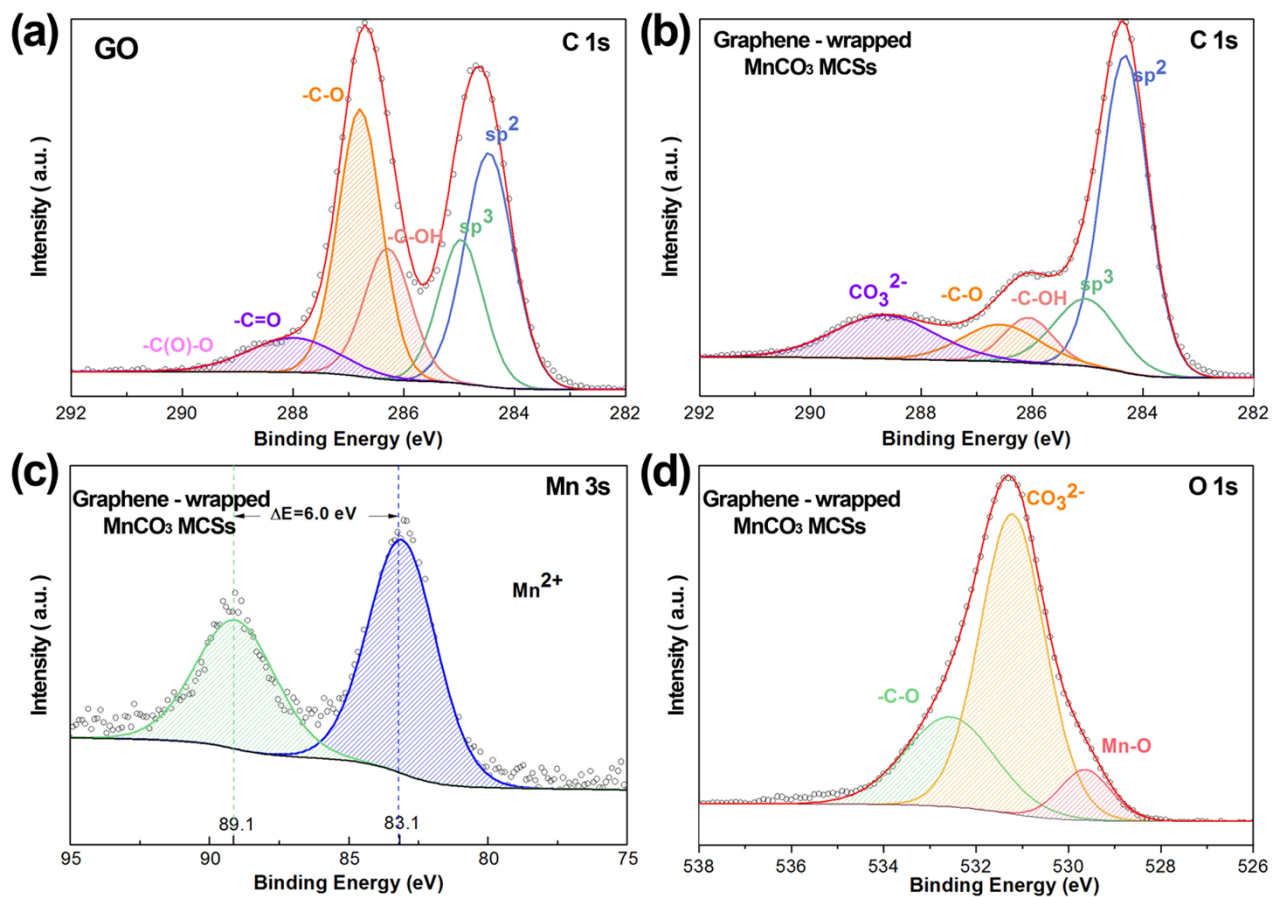

Figure S5. XPS analyses of GO (a) C 1s and (b) C 1s, (c) Mn 3s, and (d) O 1s of graphene-wrapped MnCO_3 MSCs.
- 4. More XPS data (Figure S5)**